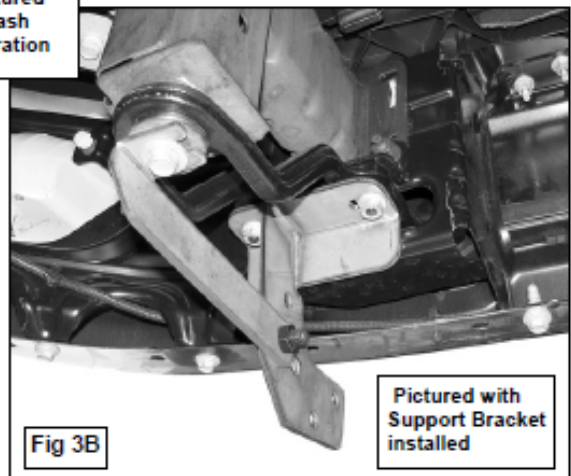

Fig 3B
A. Remove the (2) hex nuts holding the front of the tow hook to the back of the bumper, **(Figure 3A)**. Select the driver side Lower Mounting Bracket and hang it from the tow hook mounting studs, **(Figure 3B)**. Attach the Lower Mounting Bracket to the two studs using the factory Hex Nuts. Snug the hardware but do not tighten at this time.